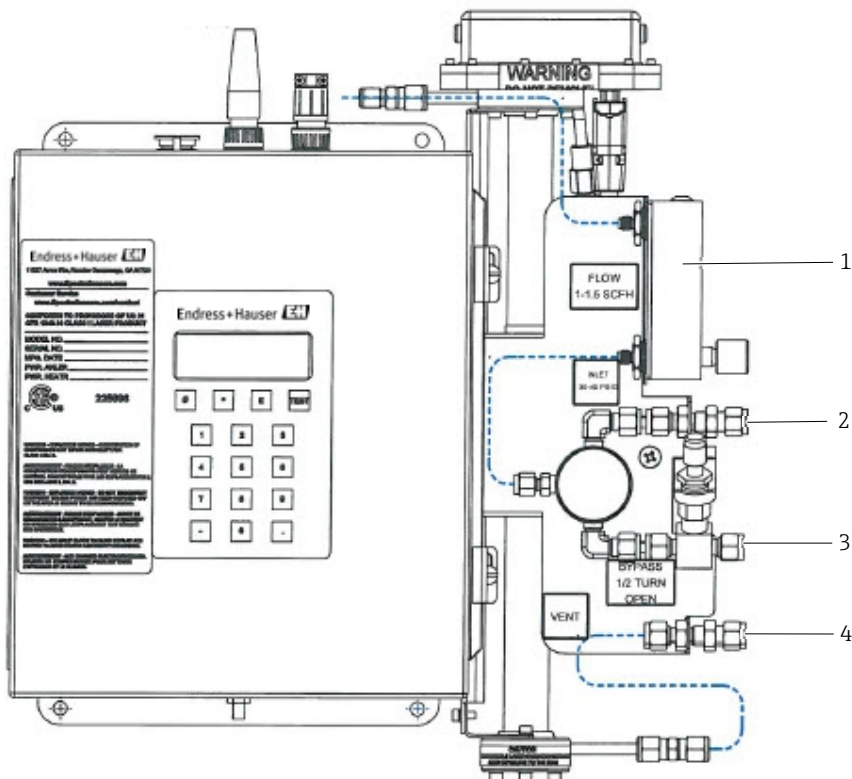

Figure 15: Starting up the SS500 simplified sample system
1. Connect the bypass to vent line. Refer to Figure 15.